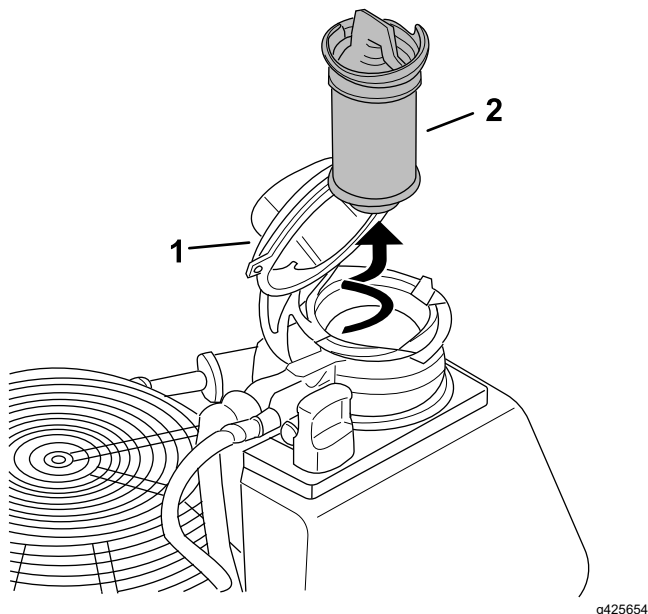

Figure 41
9. Remove the engine-oil filter (Figure 41).